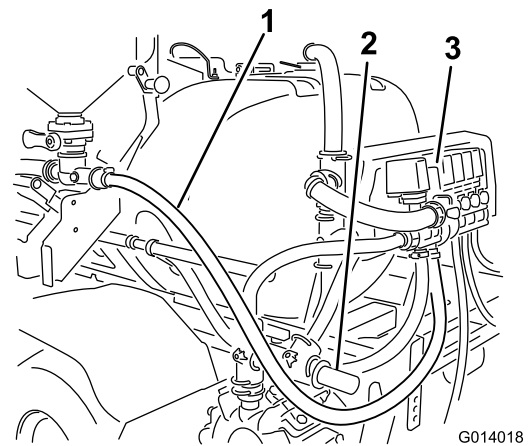

Figure 27
1. Route the open end of the supply hose rearward. The hose pass the pump and turn back toward the valve assembly under the relief valve (Figure 27).
2. Staying under the agitation hose but above the left side mount for the center boom, route the hose upward to the eductor valve assembly (Figure 27).